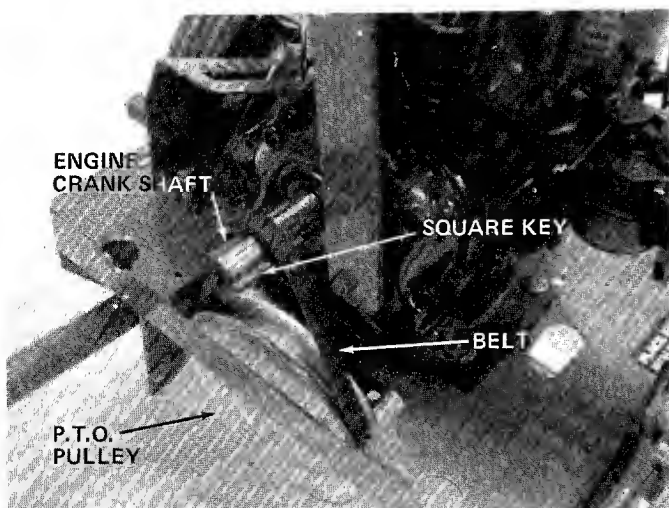

FIGURE 18.
5. Slide belt off the impeller pulley. Slide housing and impeller off engine crankshaft. Be careful not to lose square key. See figure 18.
7. Remove belt from P.T.O. pulley and install new belt. See figure 18.